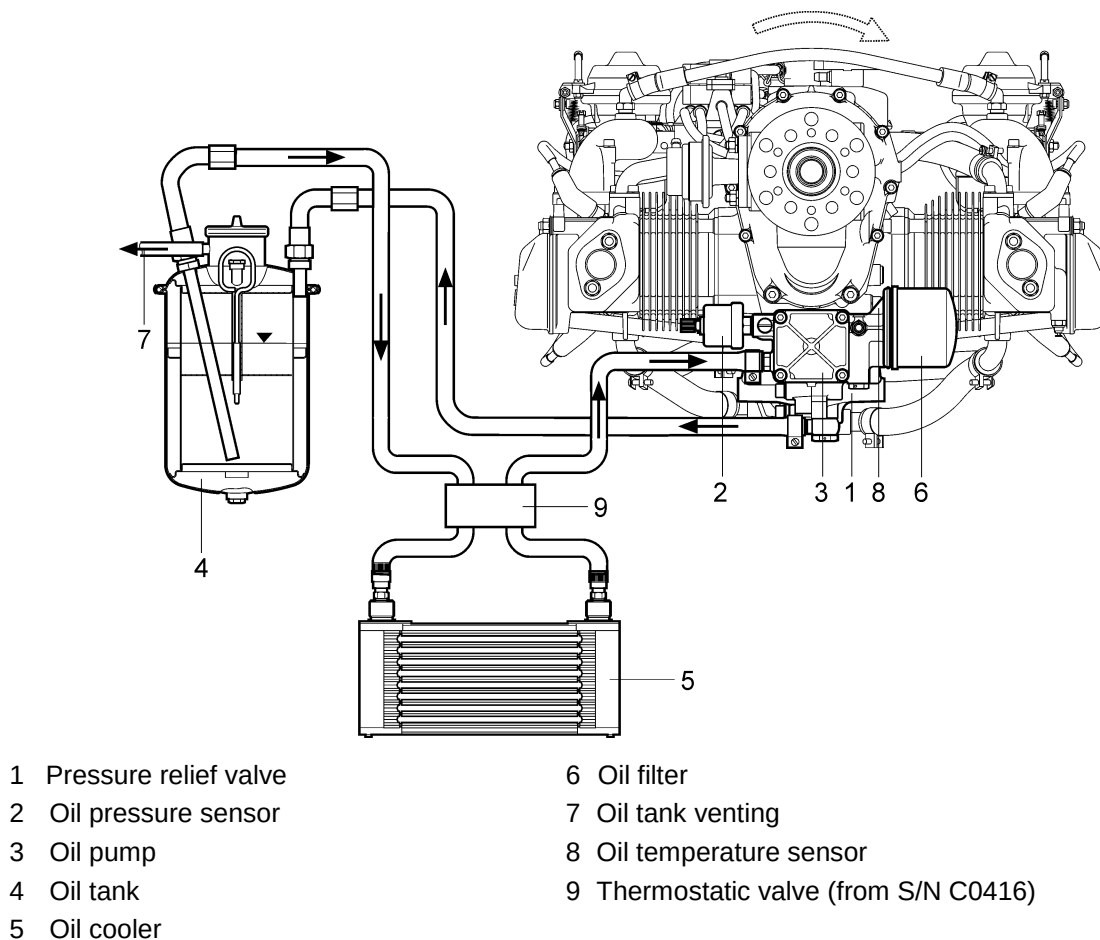

Fig. 10-5: Oil cooling system
Engine lubrication system is made with the dry sump. Engine lubrication system is equipped with the mechanically driven oil pump (3, Fig. 10-5) with oil filter (6) which ensures oil supply from the oil tank (4) located on the firewall through the thermostatic valve (9) (if used) and the oil cooler (5) to the lubricated points on the engine. The oil pump is equipped with the pressure relief valve (1) and with the oil pressure sensor (2). The oil tank is ventilated by venting (7), which is connected to hose and is led under the airplane. Oil pressure and temperature are indicated either on the EMS or on the classical analog instruments.